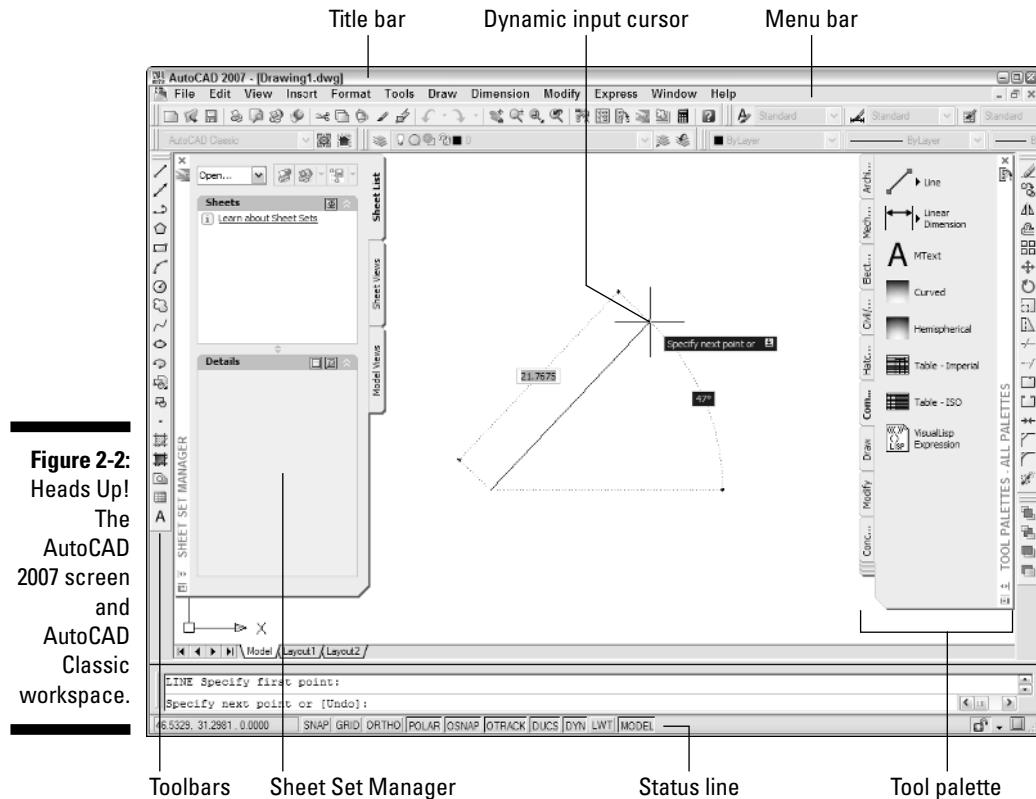
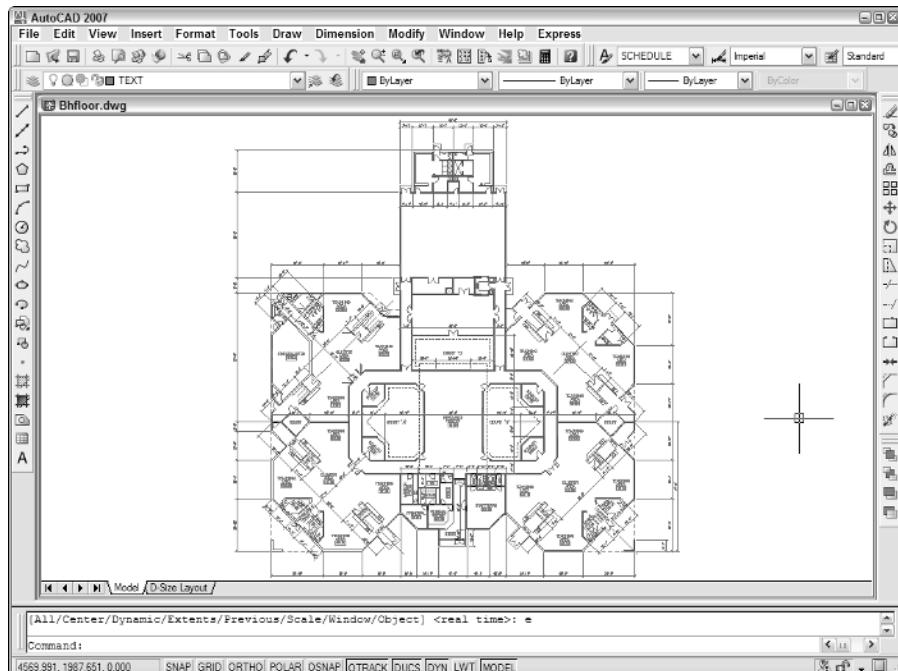

Figure 2-2:
Figure 2-3:
After you switch to the AutoCAD Classic workspace, AutoCAD displays its old familiar 2D interface, as shown in Figure 2-2. You can close the Sheet Set Manager and Tool Palettes for now — we describe how to turn them back on and how to use them later in this chapter.
As shown in Figure 2-2, much of the AutoCAD screen is standard Windows fare — title bars, a menu bar, toolbars, and a status bar.
As in other Windows programs, if you maximize a drawing's window, it expands to fill the entire drawing area. (AutoCAD 2007 starts with the drawing maximized in this way.) As shown in Figure 2-2, the drawing's control buttons move onto the menu bar, below the control buttons for the AutoCAD program window; the drawing's name appears in the AutoCAD title bar. To unmaximize (restore) the drawing so that you can see any other drawings that you have open, click the lower Restore button. The result is as shown in Figure 2-3: a separate title bar for each drawing with the name and controls for that drawing.
- ✓ Values that you type appear in the tooltip, and the dynamic input system displays dimensions when you’re drawing things or moving them around. (Refer to Figure 2-2.)